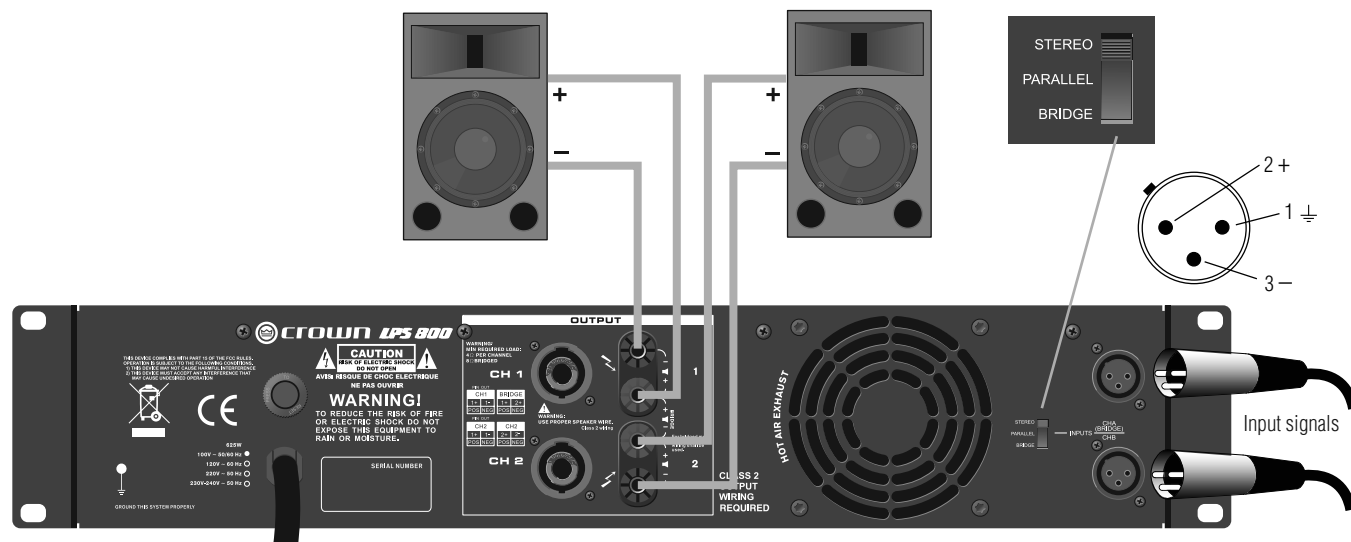

Figure 4. Stereo (Dual) Wiring With Binding Post Connectors
1. See Figure 4. On the back panel, set the Output Mode Switch to STEREO.